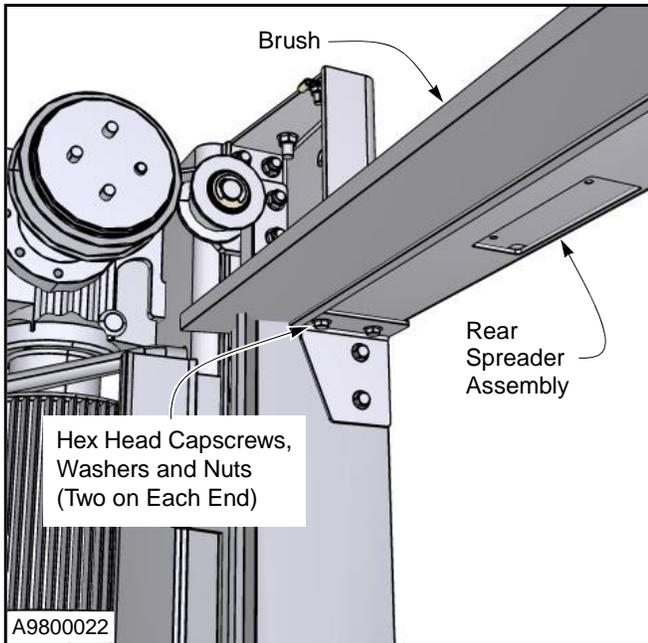

Figure 16
- Attach the rear spreader assembly to the inside face of each side column using two  $\frac{1}{4}$ -20 x  $\frac{3}{4}$ -in. hex head capscrews, washers, and nuts at each end of the assembly. Position the spreader so the brush is facing away from the wall. (See Figure 16)